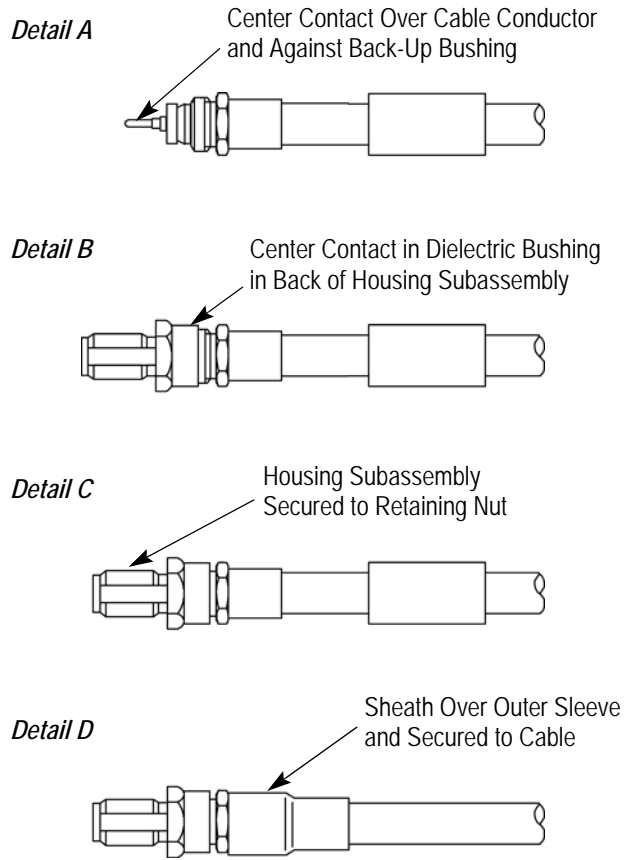

Figure 4
6. Place the center contact in the center contact holder. Heat the center contact with a soldering iron, then carefully push the center contact over the conductor until it rests firmly against the back-up bushing. See Figure 4, Detail A. Remove excess solder and splatter.
7. Carefully insert the center contact into the dielectric bushing in the back of the housing subassembly. See Figure 4, Detail B.
8. Screw the housing subassembly onto the retaining nut, and tighten to a torque between 1.36 and 1.81 N•m [12 and 16 in.-lbs.]. See Figure 4, Detail C.
9. Slide the sheath over the outer sleeve until the ends are aligned. Using a heat gun, apply indirect heat to the sheath until the sheath has shrunk and is secured to the cable. Refer to Figure 4, Detail D.